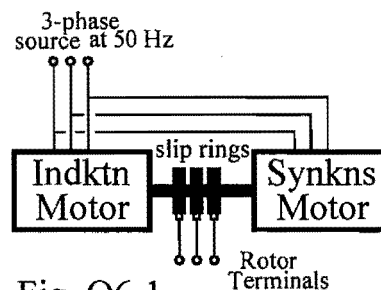

Fig. Q6-1
**Q6, 10 pts:** A system shown in Fig. Q6-1 is energized under the 50 Hz power source. The synchronous motor has 4 poles and drives the interconnected shaft in the clockwise direction. The induction machine has 6 poles and its stator windings are connected to the source such that as to produce a counter-clockwise rotating field (in opposite to the rotation of the synchronous motor). The machine has a wound rotor whose terminals are brought out through slip rings.